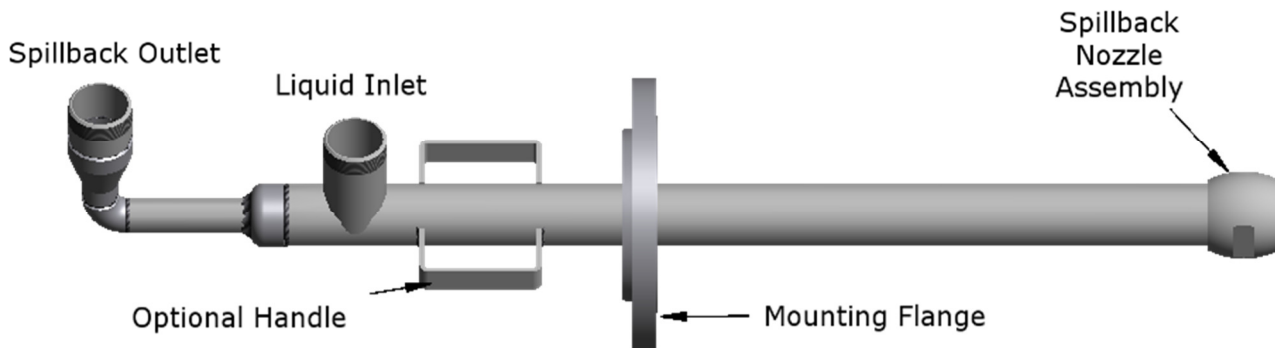

Figure 1: Basic Lance Configuration
- Figure 1: Basic Lance Configuration 6
BETE Spillback lances (See Figure 1) are intended to facilitate installation of spillback nozzles inside a process vessel, piping, or ducting. A spillback nozzle allows an operator to adjust flow into the system without changing the supply pressure to the lance. See Appendix A for theory of operation.
- Liquid Inlet: The connection receives fluid from a pump at a desired constant operating pressure. (See Figure 1)
- Spillback Outlet: The connection is for the diverted flow that is not sprayed into the process system. (See Figure 1)
- Mounting Flange: The mounting flange holds the lance in position in the system and seals the system, preventing contamination of the process and outside environment. (See Figure 1 & 5)
- Handle: The handle is to assist in moving the lance. (See Figure 1 and 5)